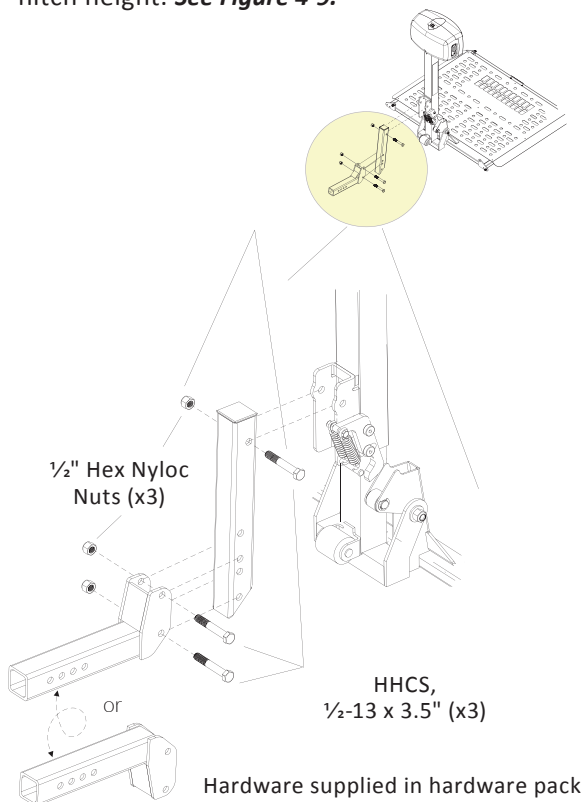

Figure 4-9
1. Attach the hitch adapter to the hitch post, ensuring that the adapter is properly oriented with the post according to the application's hitch height. See Figure 4-9.